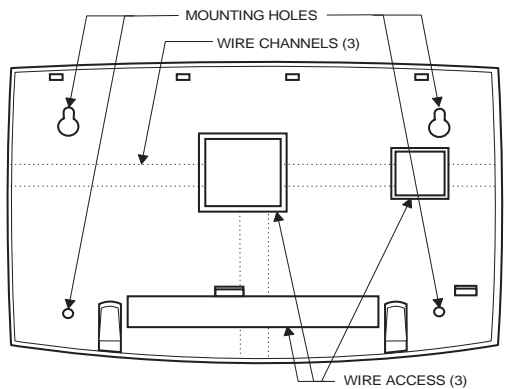

Figure 5. Wall Mounting Hole Locations
- Place the back-plate on the wall at the desired location, check for level, and mark the mounting holes (see Figure 5).
- Drill holes for wires at any of the three wire access locations (see Figure 5).